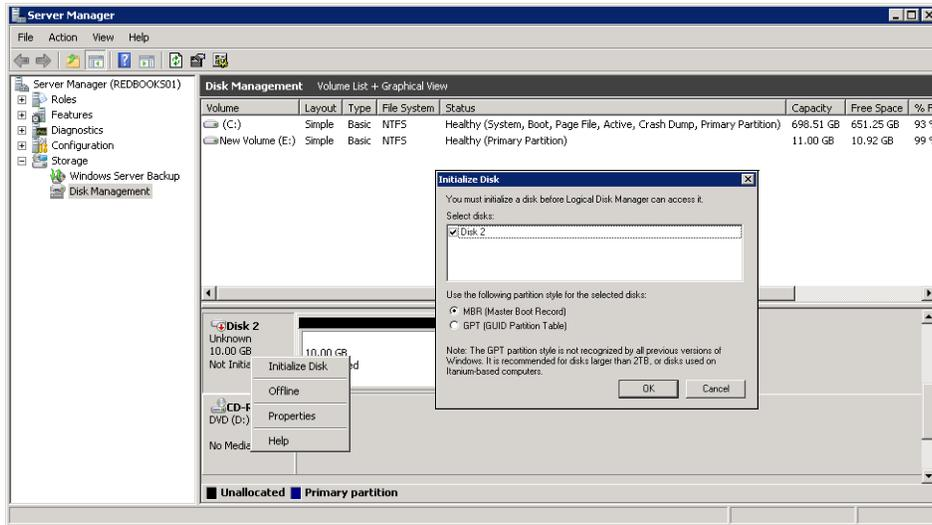

Figure 4-27 Initializing disks
- From the Disk Manager, right-click the disk to be initialized, select the disk and the partition table to be used, in this case “Disk2” & “MBR” as shown in Figure 4-27.